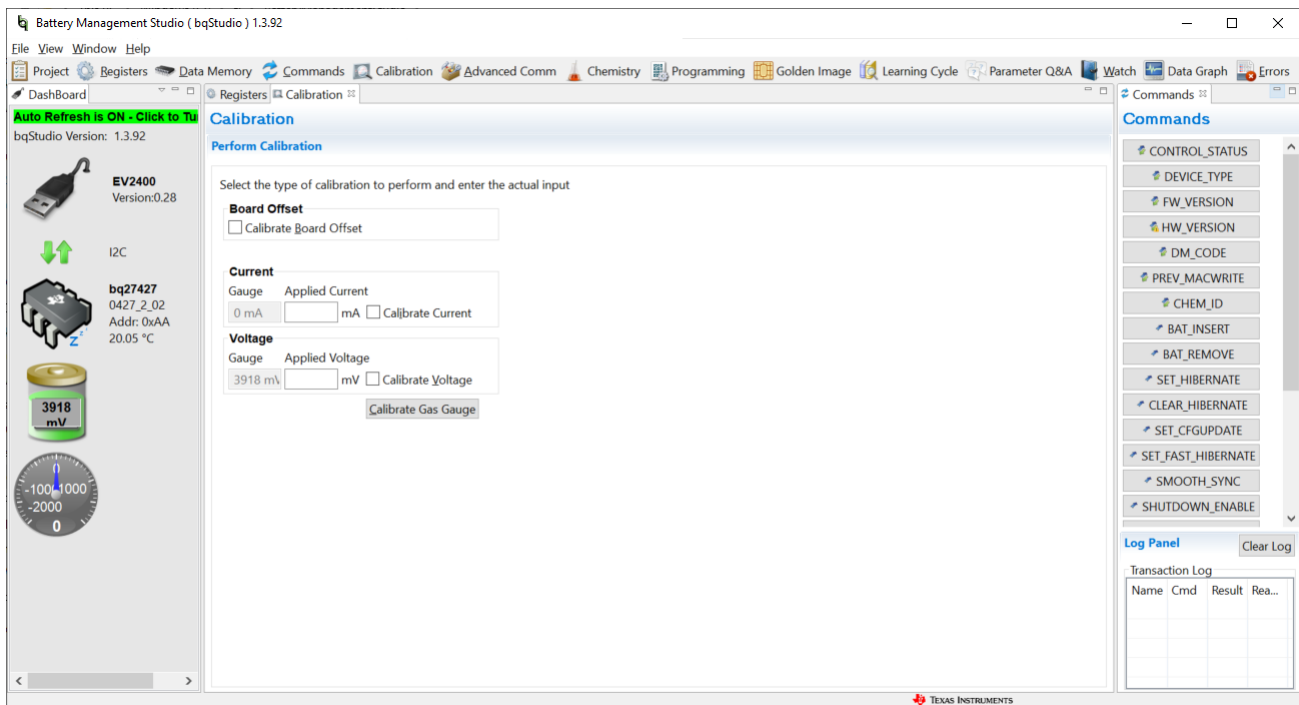

Figure 8-1. Calibration Screen
The BQ27427EVM must be calibrated to ensure accurate value reporting. This is done using the Calibration window in bqStudio (Figure 8-1).
1. Select the types of calibration to be performed (see Figure 8-1).